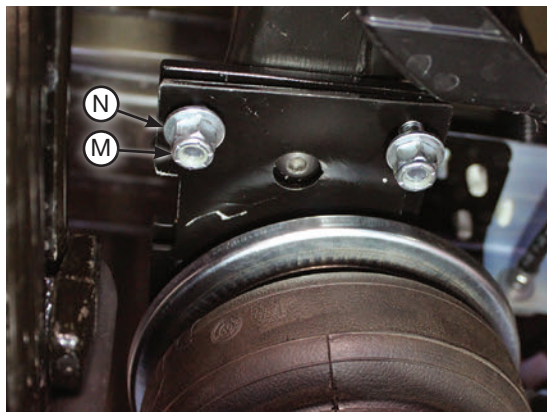

fig. D.22
8. Before proceeding, make sure that the 90° fittings are pointing inboard toward the center of the vehicle. While raising or lowering the axle or body of the vehicle, align the previously installed upper air spring bracket carriage bolts with the frame bracket so the carriage bolts protrude through the bracket. Cap the carriage bolts with the 3/8" flat washers (N) and 3/8"-16 nylon lock nuts (M) (Fig. D.22). Snug the nuts down first then torque to 31 lb.-ft. (42Nm). Raise the axle or lower the body and remove jack stands.